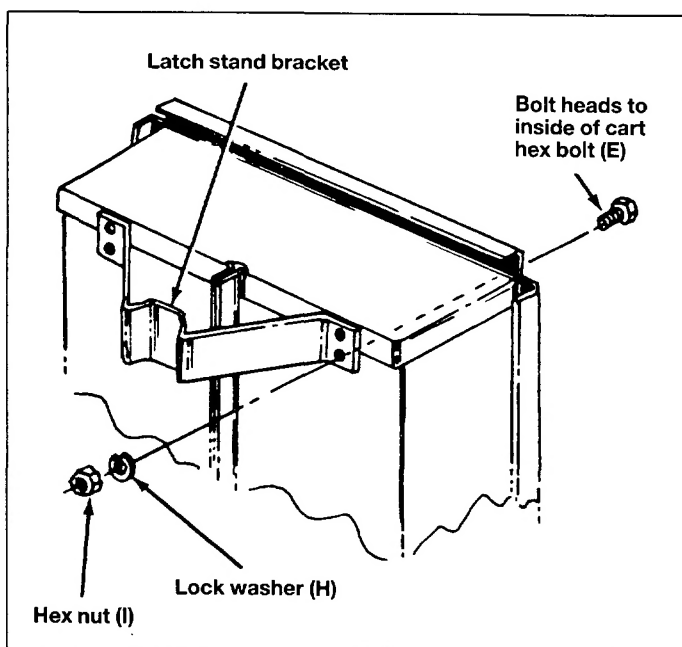

Fig. 9
14. Assemble latch stand bracket using four $1/4" \times 5/8"$ (6 mm \times 16 mm) hex bolts (E), lock washers (H) and hex nuts (I). See figure 9.